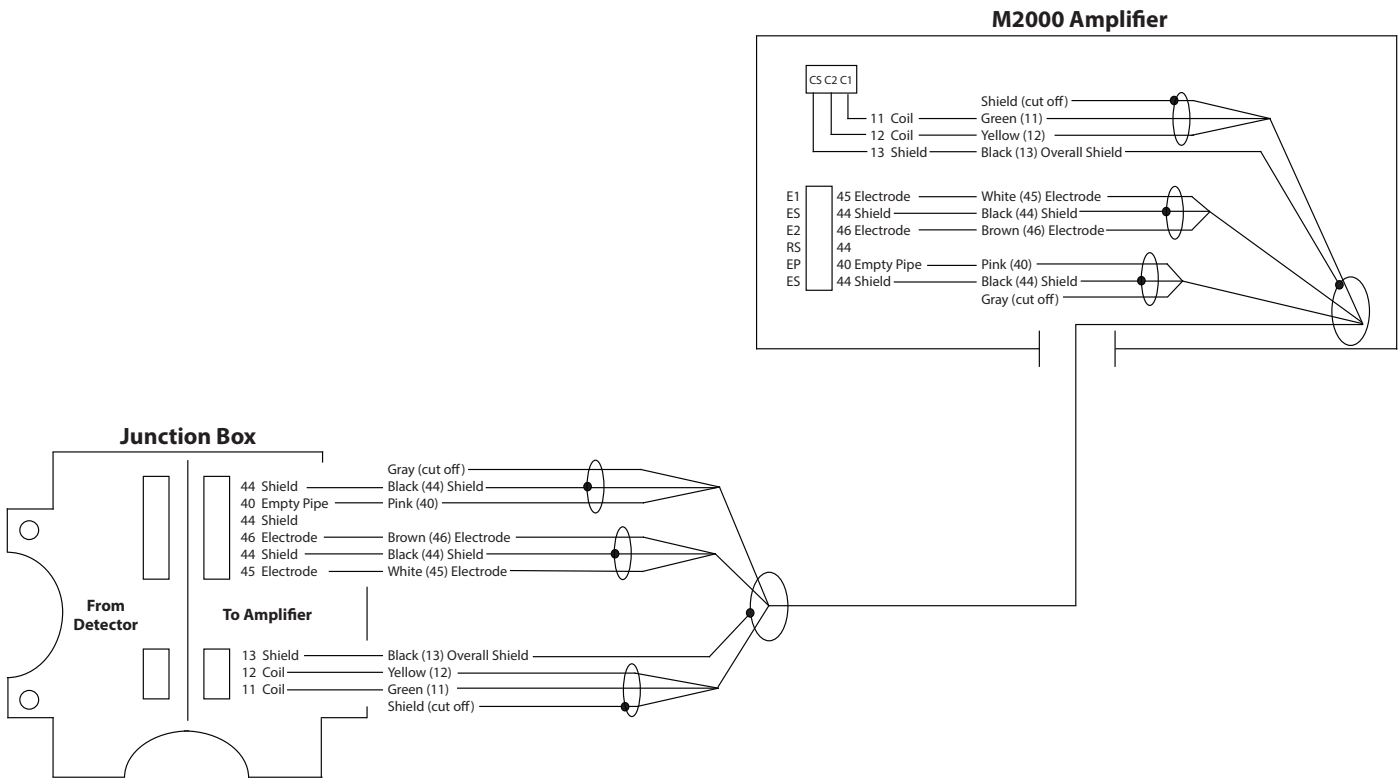

Figure 21: Wiring for remote configuration
3. Connection as shown in Figure 21 on page 20.
1. Remove the junction box lid. Carefully remove the wires connected to the terminal blocks that run to the M2000 transmitter. See Figure 21 on page 20 for a reference of wire color to terminal connection.